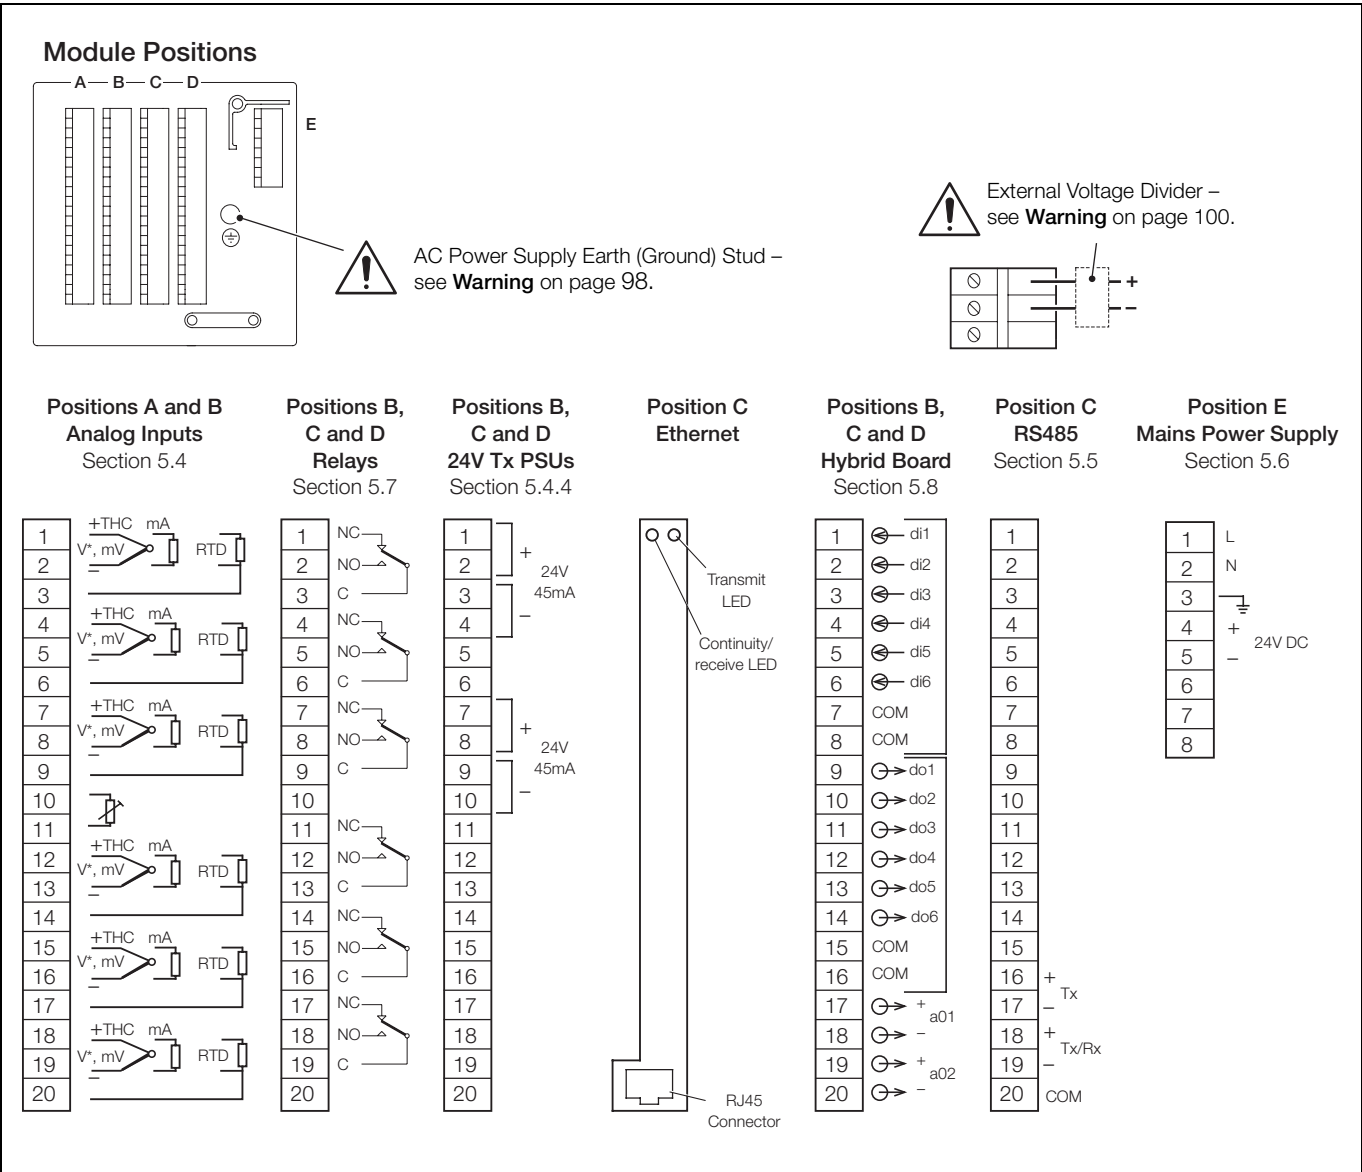

Fig. 5.5 Electrical Connections
Additionally, digital inputs from a hybrid module in position H (see Fig. 5.5) can be used to produce up to 32 Binary Encoded (BCD) digital states, e.g.:
5.3 Electrical Connections – Fig. 5.5
- It is strongly recommended that screened cable is used for signal inputs and relay connections. Connect the screen to the earth (ground stud) – see Fig. 5.5, page 99.
Note. Refer also to Fig. 5.5 for terminal numbers.